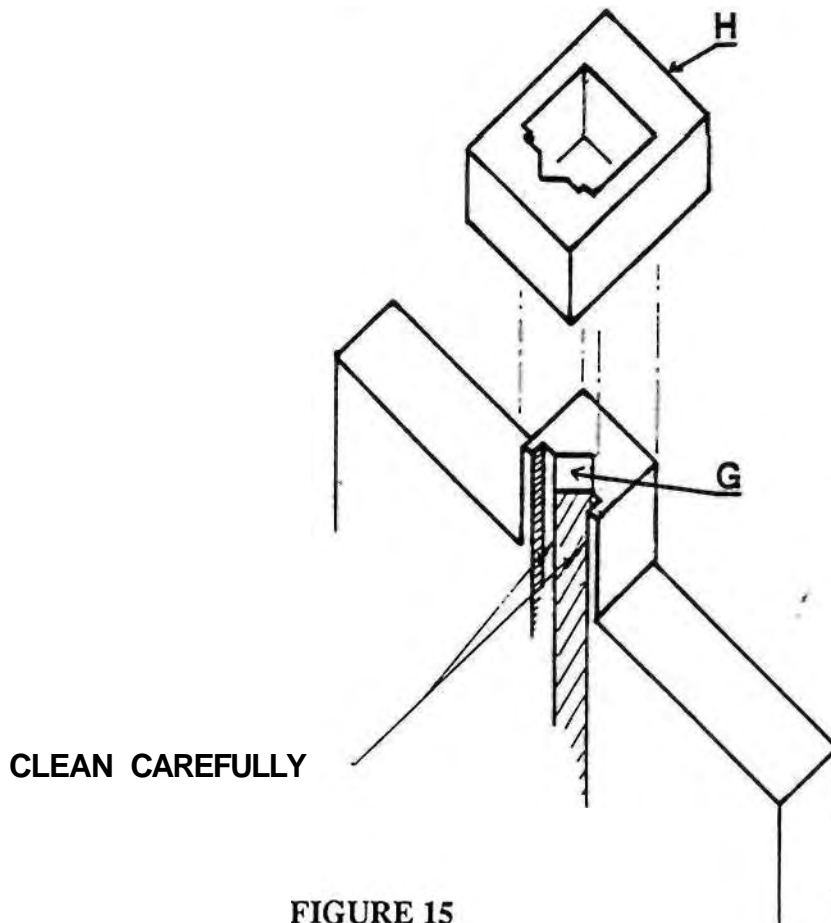

FIGURE 15
* Jammed wedge (see solution Page 13 - Fig. 15).
IV - REMOVING A JAMMED WEDGE (Fig. 15);
Remove the distributor head and clean the cartridge locations, see Fig. 15.